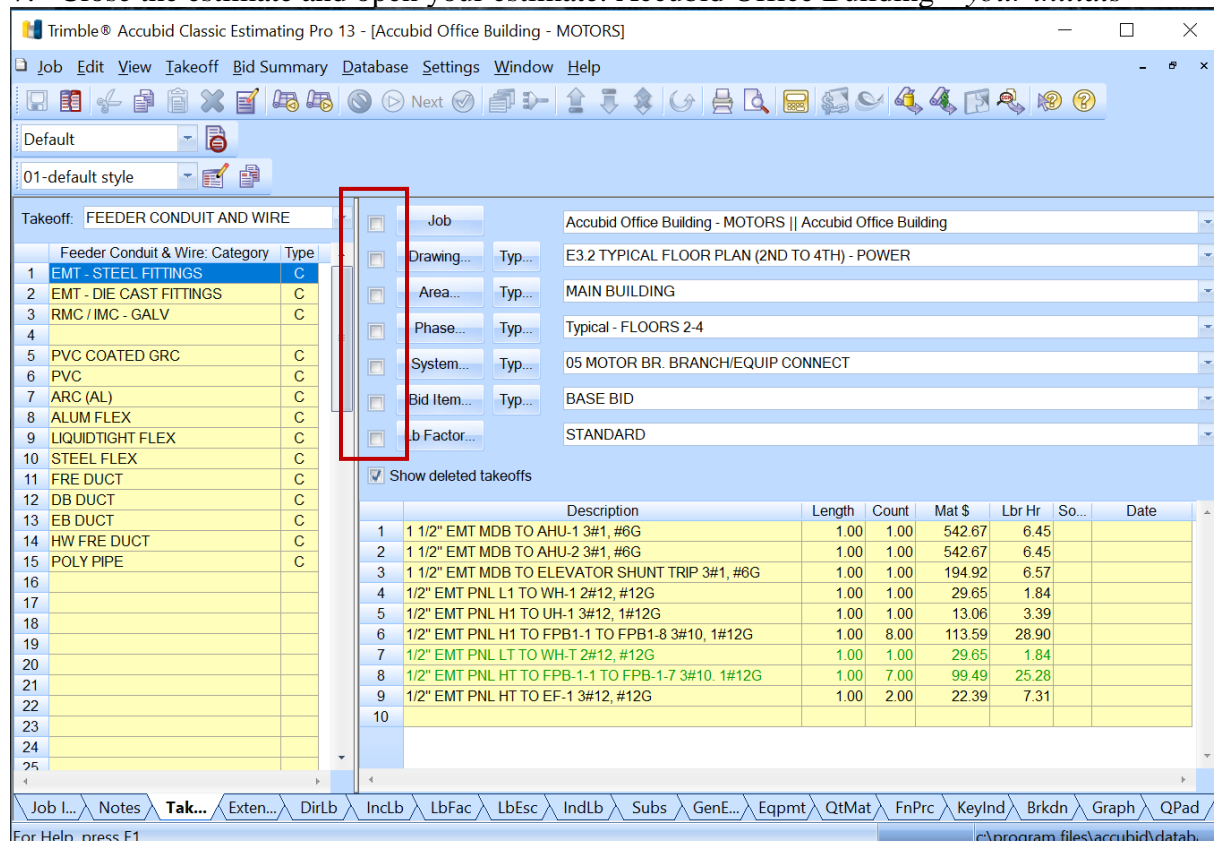

Fig. 1
3. Setup Accubid to display the entire audit trail by un-checking all the Breakdown filter check boxes as shown in Fig. 1.